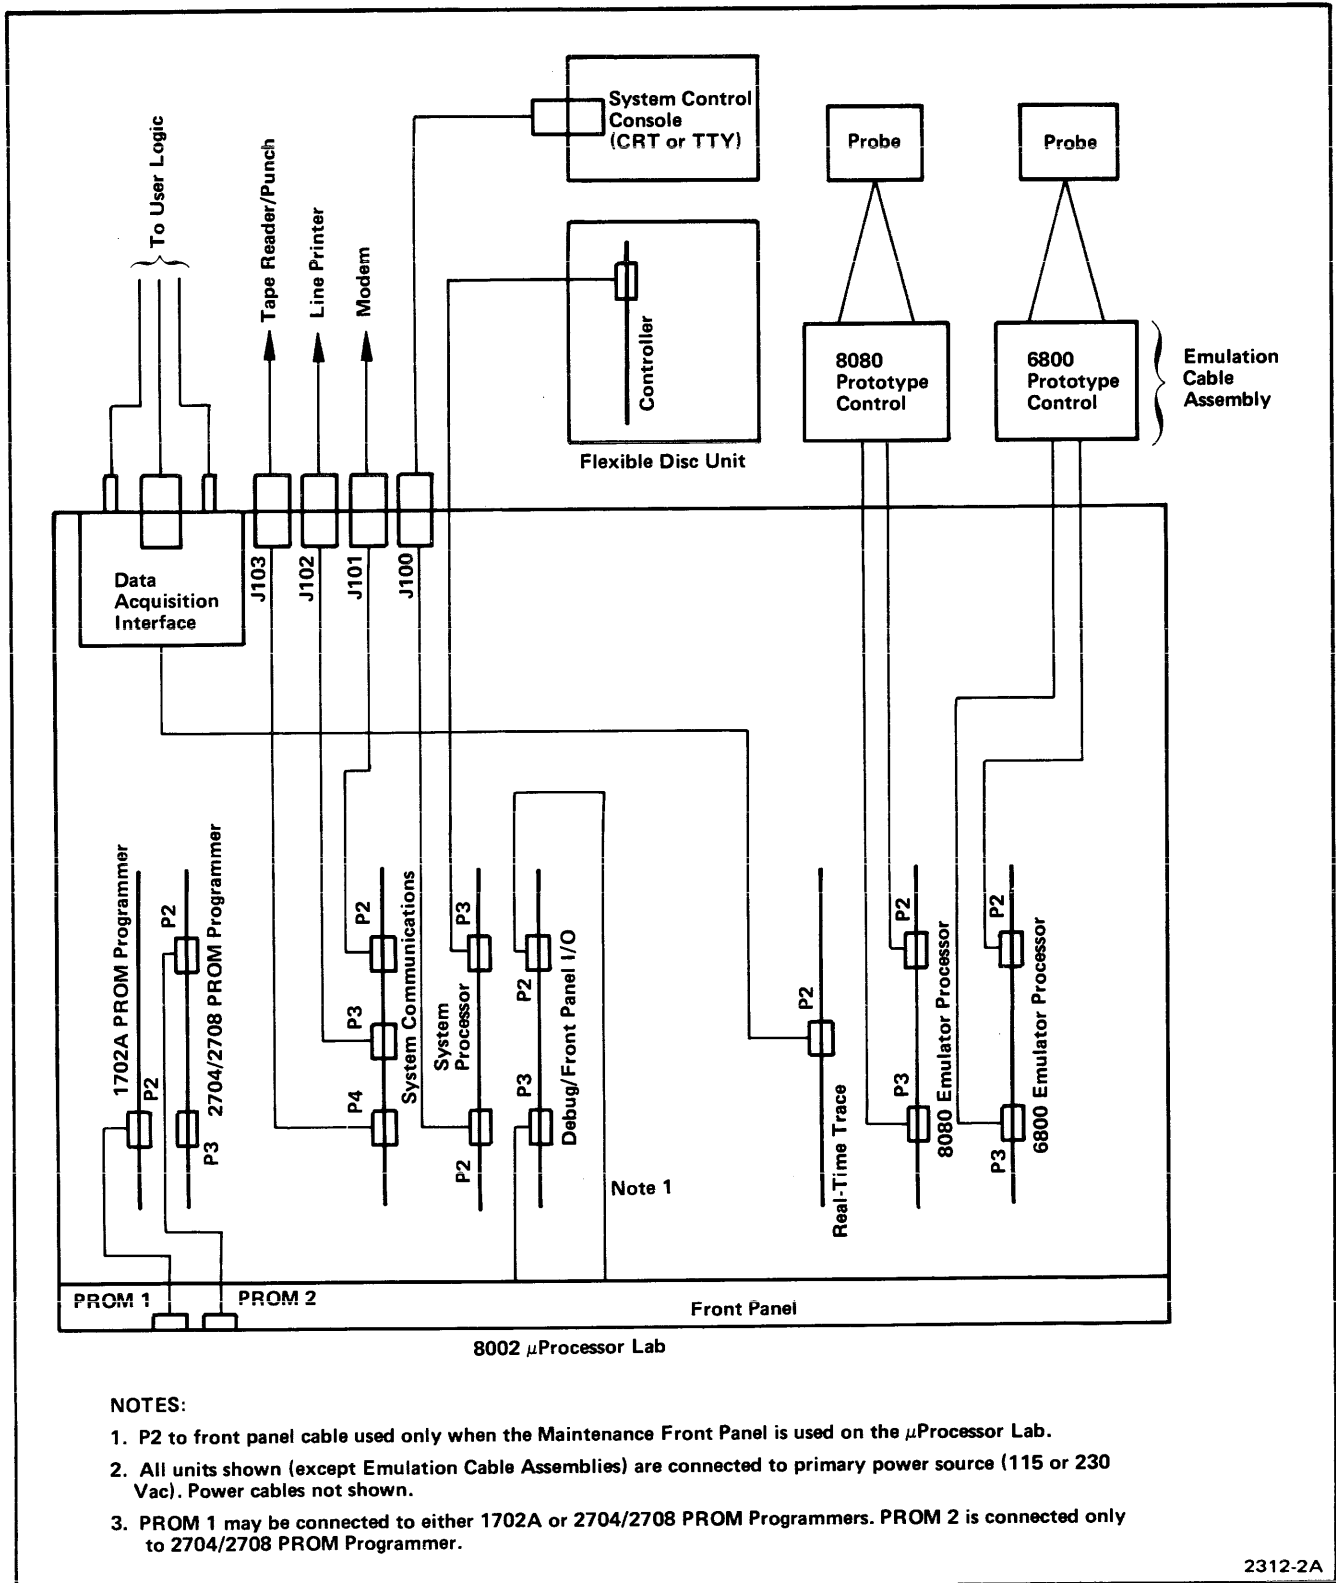

Fig. 1-1. 8001/8002 μProcessor Lab System Interconnect Diagram.
Refer to Fig. 1-1 for the 8001/8002 μ Processor Lab System interconnect diagram. Connect the cables as follows:
2. Connections and routing for interconnecting cables to optional or peripheral equipment must be accomplished in accordance with Fig. 1-1 and instructions in the individual equipment manuals. The emulation cable assemblies that enter the center and right cableways (from a front panel view) on the back panel of the μ Processor Lab must be correctly installed in the cable clamps. Make sure the bared ground plane of the ribbon cables are making contact with the cable clamps to ensure a good ground connection.